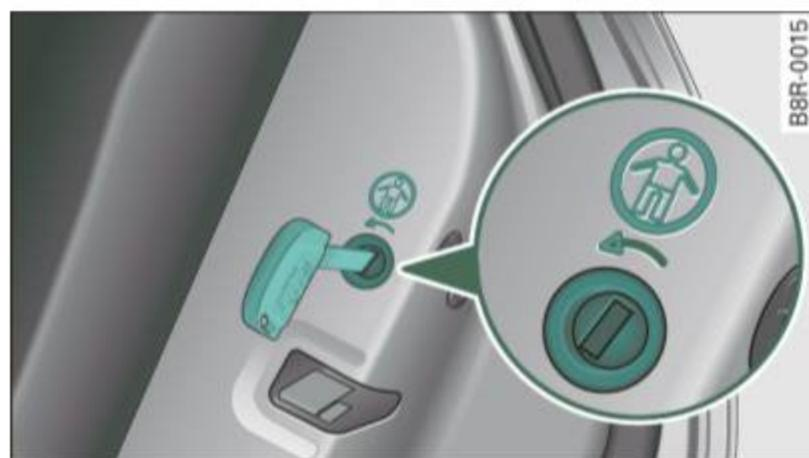

Fig. 45 Child safety locks on the rear doors
- Turn the key in the direction of the arrow ⇒ fig. 45.